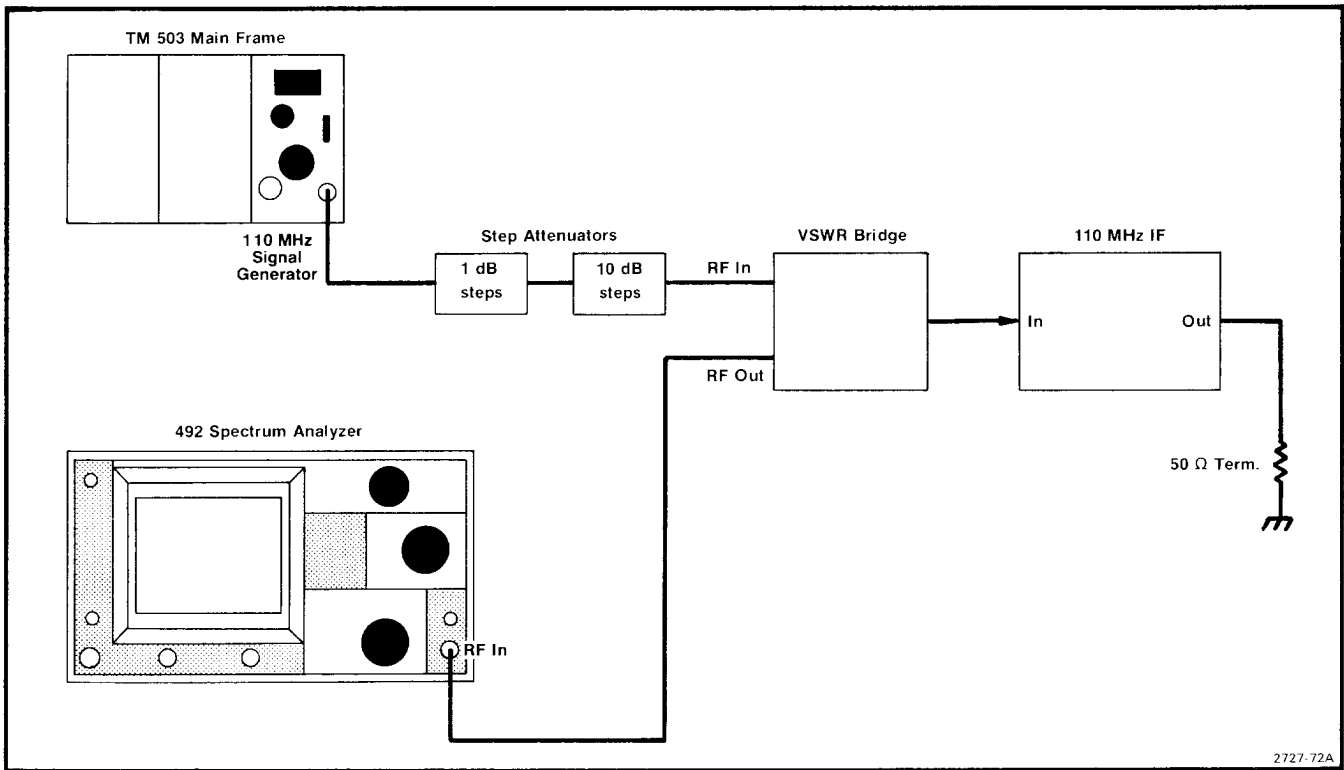

Fig. 4-10. Test equipment setup for adjusting return loss for the 110 MHz IF assembly.
1. Test equipment setup is shown in Fig. 4-10. Apply 110 MHz at 2 V peak to peak (+10 dBm) through 35 dB attenuation to the RF Input of the VSWR bridge. Connect the RF Out of the VSWR bridge to the RF Input of the spectrum analyzer. (Do not connect the 110 MHz IF to the VSWR bridge.)